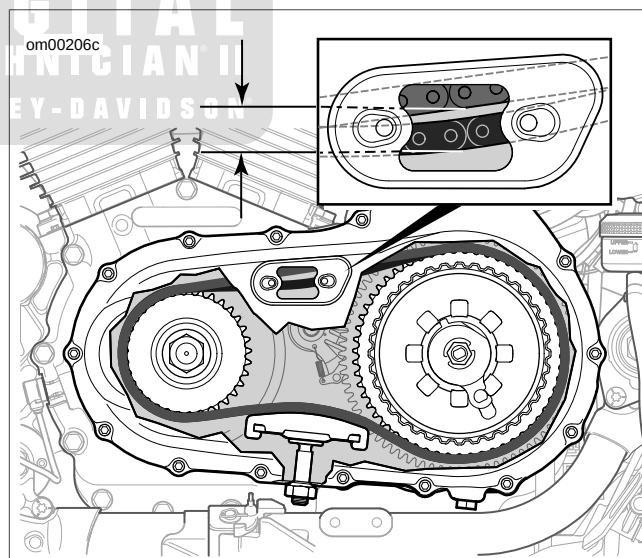

Figure 1-20. Primary Chain Free Play
3. See Figure 1-20. Through the inspection opening, measure chain free play at the tightest position.